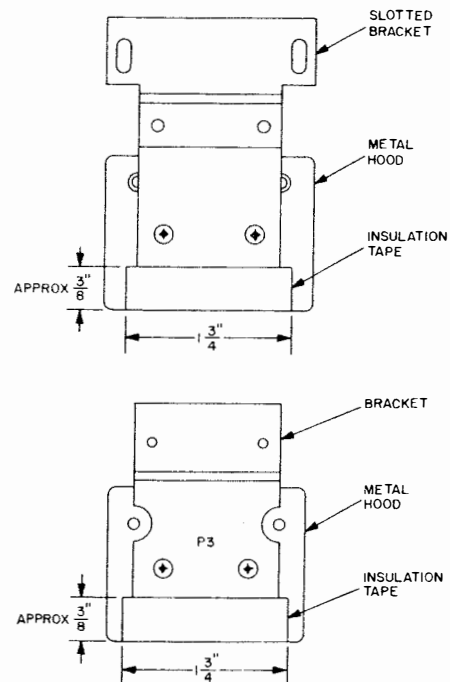

Figure 1. Method of Applying Insulation Tape to Metal Hood.
8. At the location shown in figure 1, apply half the width of a 1-3/4 inch length of insulation tape to the outside of either half of the metal hood and press the tape firmly in place. Fold over the remaining portion of the tape to the inside of the metal hood and press the tape firmly in place.
13. Push drawer into its case and fasten the eight panel screws. (794)